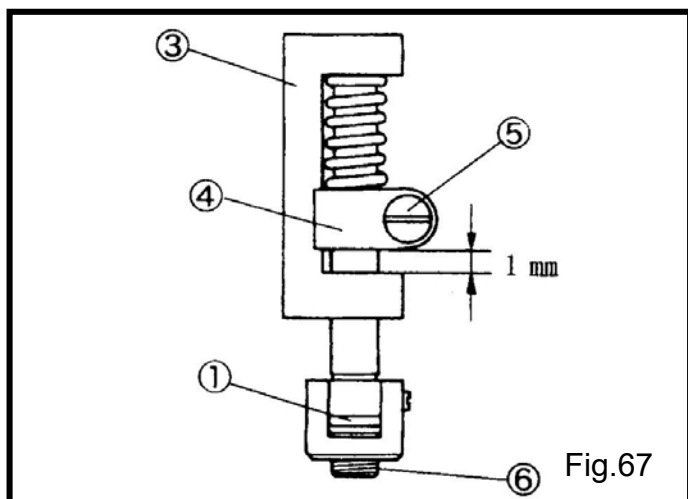

Fig.67
- (2) 刀座③和壓力彈簧軸環④之間的標準間隙為 1.0mm。(Fig.67)
- (3) 鬆開螺絲⑤和移動軸環④調整壓力。
- 增加壓力往上移動彈簧軸環④。
- 減少壓力往下移動彈簧軸環④。
- (2) The standard clearance between the bearing of the knife holder shank support③ and the knife holder guide collar④ is 1.0 mm. (Fig.67)
- (3) Loosen the screw⑤ and move the knife holder guide collar④ to adjust the pressure.
- To increase the pressure, move the collar④ upward.
- To decrease the pressure, move the collar④ downward.